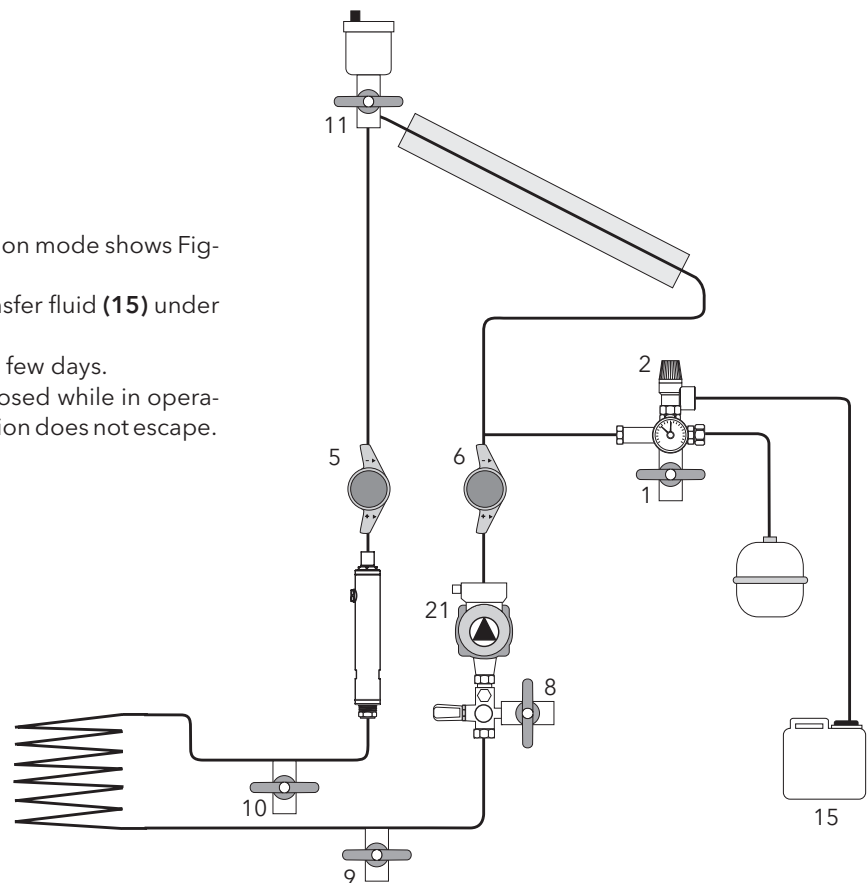

Figure 16 Operation mode.
- The position of the valves in operation mode shows Figure 16.
- Put an empty container of heat transfer fluid (15) under the safety valve's exhaust line (2).
- Close the shut-off valve (11) after a few days.
- The shut-off valve (11) must stay closed while in operation so that vapor built up at stagnation does not escape.